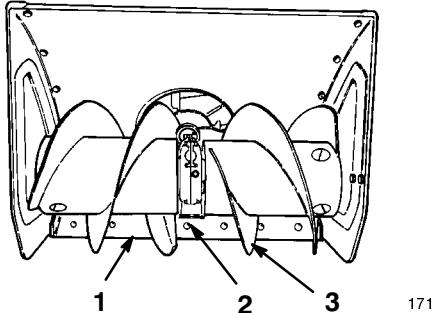

Figure 9
2. Move the snowblower onto a flat surface and make sure that the scraper (Fig. 9) is parallel to the ground. If it is not, adjust the scraper; refer to *Adjusting the Skids and the Scraper* on page 23.